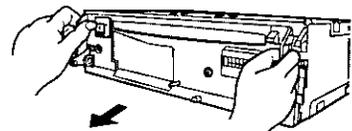

Fig. 3
- d) Remove the unit by pulling it with both hands. (→ Fig. 3)